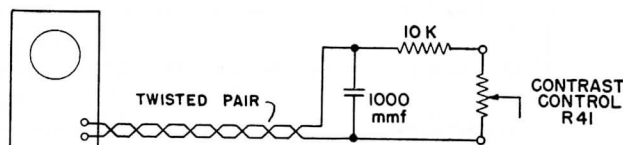

Fig. 5.
5. Connect a sweep generator to the converter and an oscilloscope in place of the meter. (See figure 5.) Check the peaks of the response for symmetry.
2. Connect an oscilloscope across diode load R41, (contrast control), as shown in figure 5.